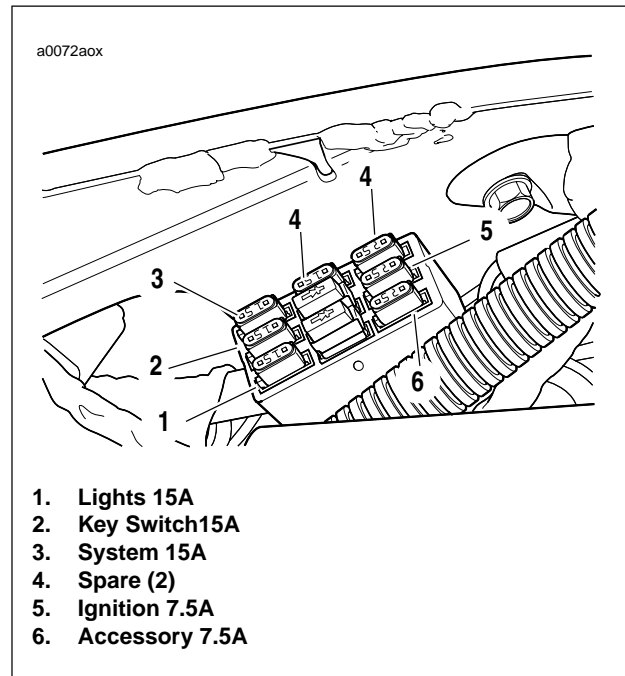

Figure 7-81. Fuse Block
See Figure 7-81. The fuse block is on the right side of the frame under the seat. The block contains five replaceable fuses. Two spare fuses (4) are attached to the fuse block.